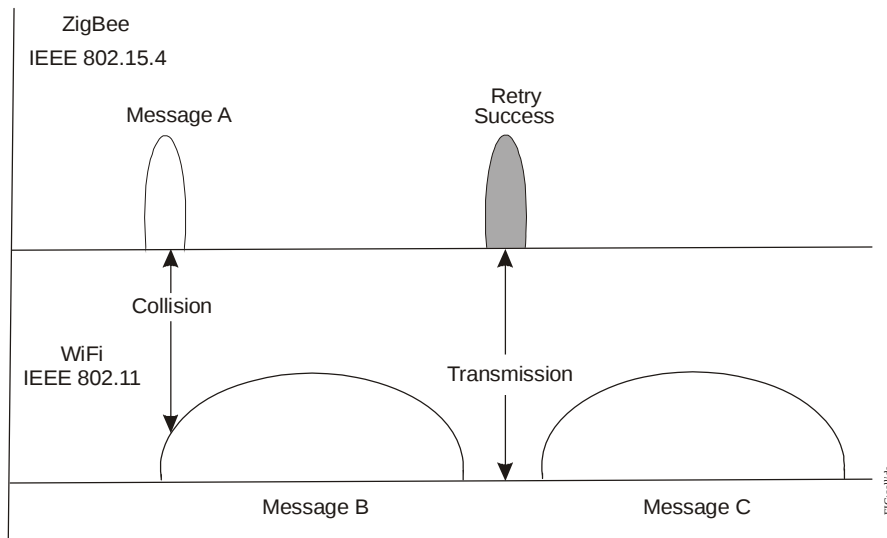

Figure 24: Message Transmission
- The ZFR1800 Series Wireless Field Bus devices transmit data using several short messages that are collected and reconstructed at the destination. These smaller messages can transmit between the larger WiFi messages. The short messages have less chance of colliding with other messages and a better chance of transmitting successfully. If a piece of the ZigBee wireless message is transmitted at the same time as a WiFi message, it retries until it can transmit at the next available gap (Figure 24).